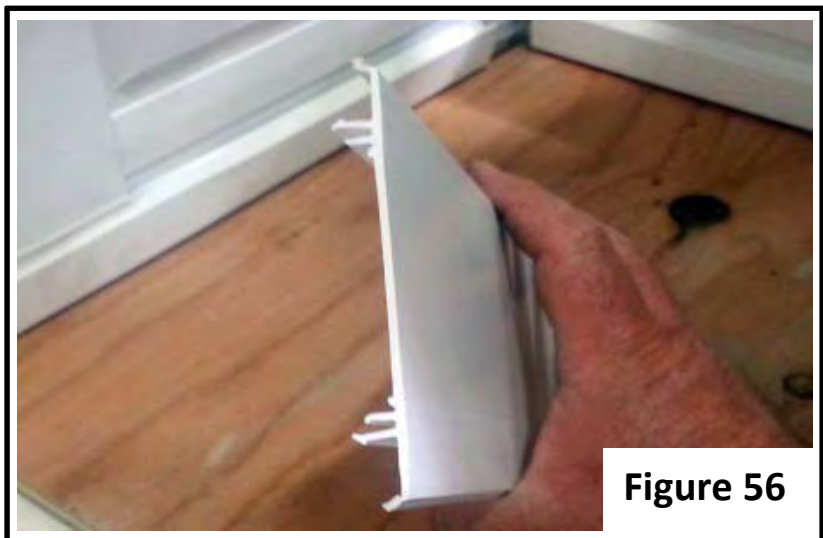

Figure 56
Utility Mullion (UM) Clad (Figure 56)